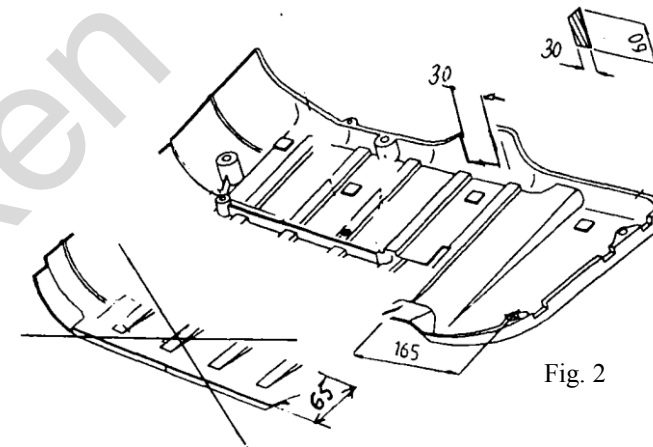

Fig. 2
- Drill again holes only from inside boot using bit  $\varnothing 22\text{mm}$ . To drilled holes put distance sleeves  $\varnothing 22$ ,  $L=37\text{mm}$  (pos. 9), and top put fish-plates (pos. 6) as shown on the drawing. Insert bolts  $M10 \times 70\text{mm}$  (pos. 10).
- On prominent bolt put main bar of the towing hitch (pos. 1) and fix loosely.
- Fix side brackets (pos. 4 and 5) as show on the drawing using bolts  $M10 \times 35\text{mm}$  (pos. 11) through holes A. Fix by bolts  $M10 \times 35\text{mm}$  (pos. 11) through holes B with jibs (pos. 7 and 8). Jibs place inside chassis frames through longitudinal holes.
- Fix body of the automat and place tow-ball according to supplied instruction. Note! Remember to place socket plate (pos. 3) as shown on the drawing 1.
- Reassemble the cover after cut fragment as shown on figure 2.